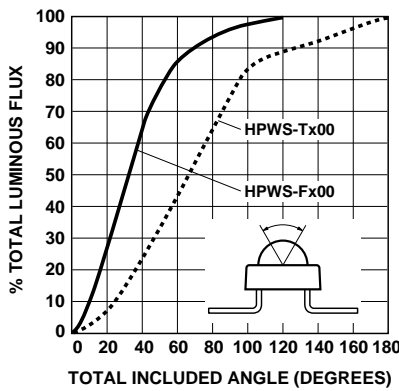

Figure 5. HPWS-xx00 Percent Total Luminous Flux vs. Total Included Angle.
2. $\theta_{0.90v}$ is the included angle at which 90% of the total luminous flux is captured. See Figure 5.
- $\theta_{0.90V}$ is the included angle at which 90% of the total luminous flux is captured. See Figure 5.